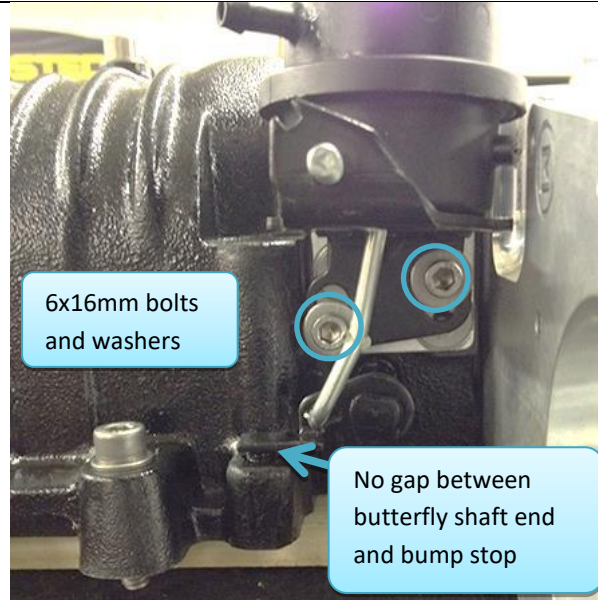

Figure 52: Bypass valve properly installed upright while maintaining downward pressure on bypass butterfly shaft.
32.3.4. Position bypass valve so that it is as far back and upright as possible (Figure 52)